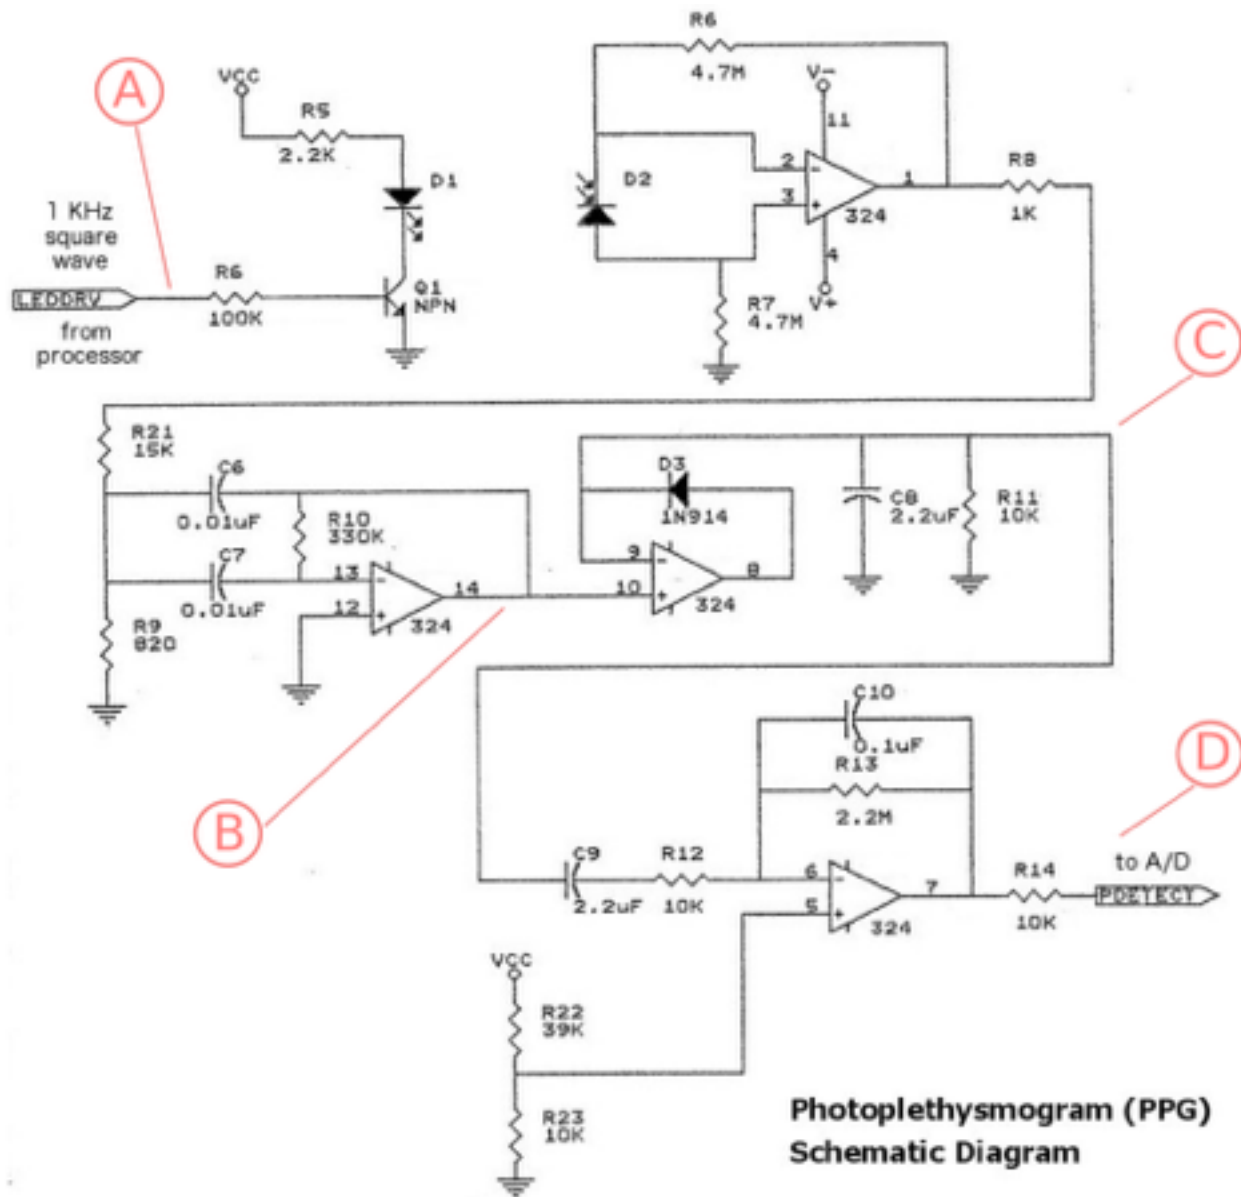

Figure 3.1. Schematic for PPG
1. Implement the circuit on the breadboard according to the schematic in Figure 3.1. Using infrared LED's, you won't be able to see light emitted, but depending if you have an IR filter on your phone, you may be able to see light using your phone camera (most likely not). However, using an Oscilloscope, you should be able to see changes on the output when you wave the emitting diode in front of the receiving diode. As an alternative, you can use red LED's.